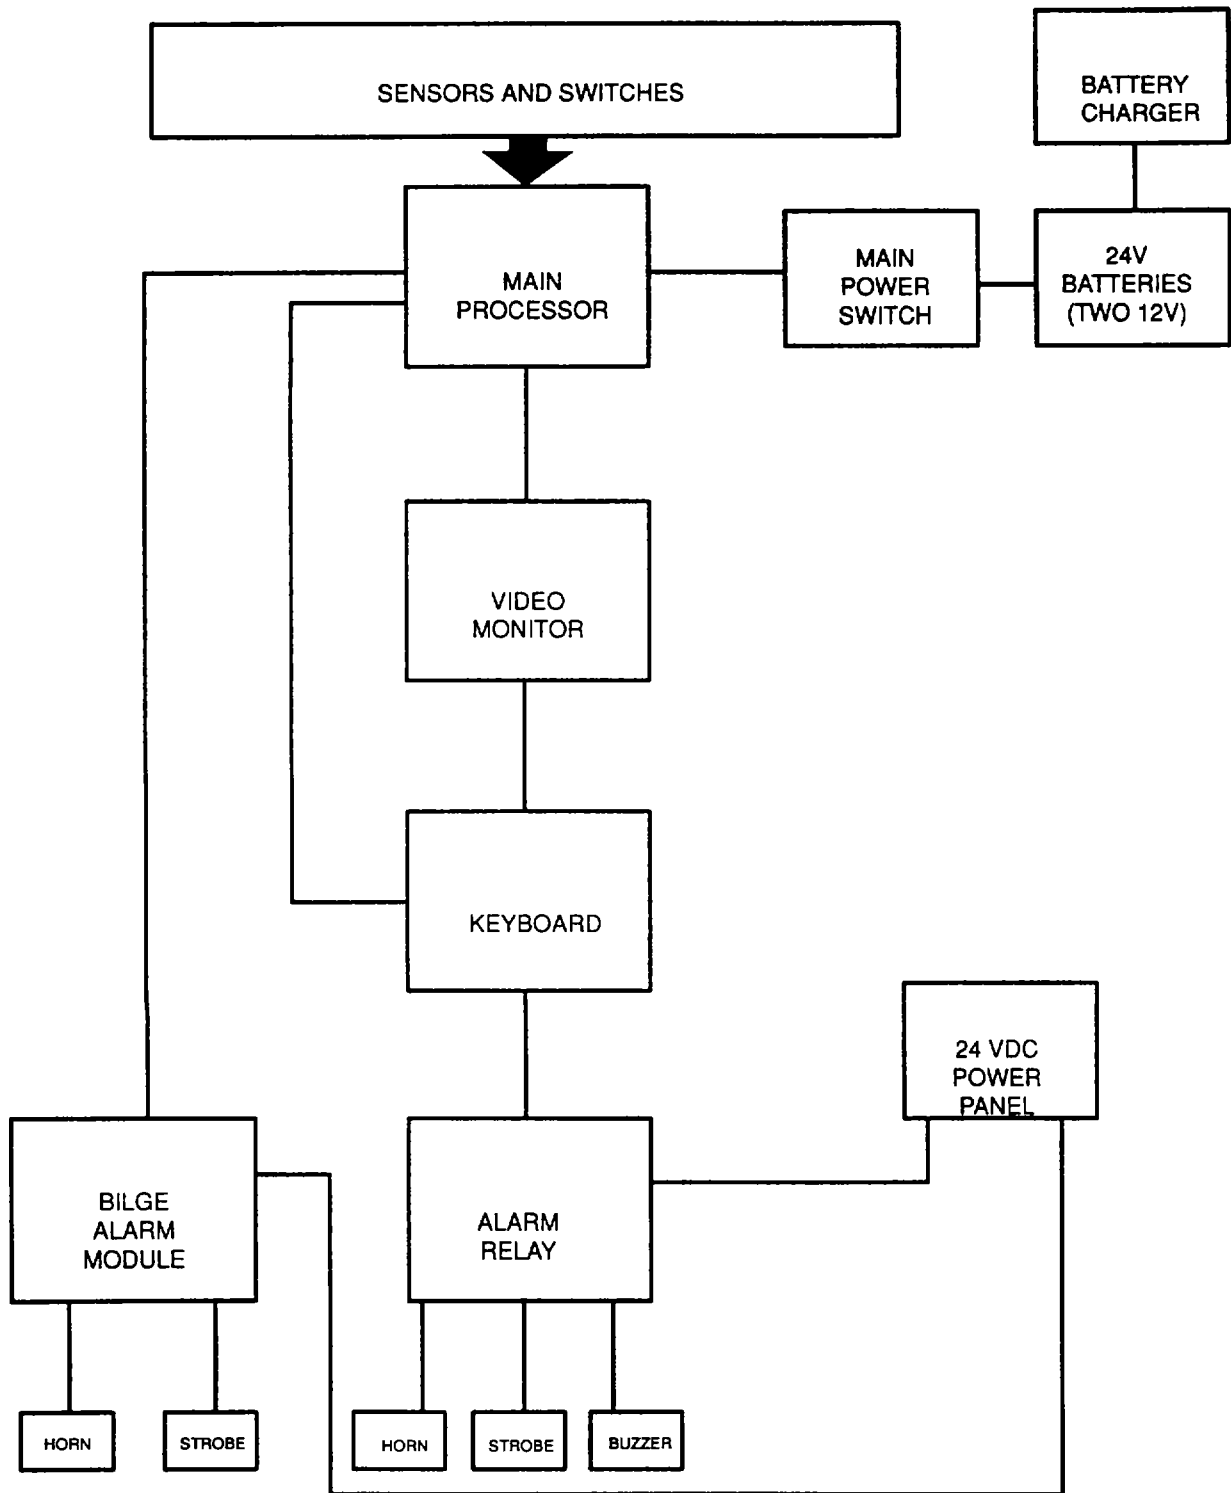
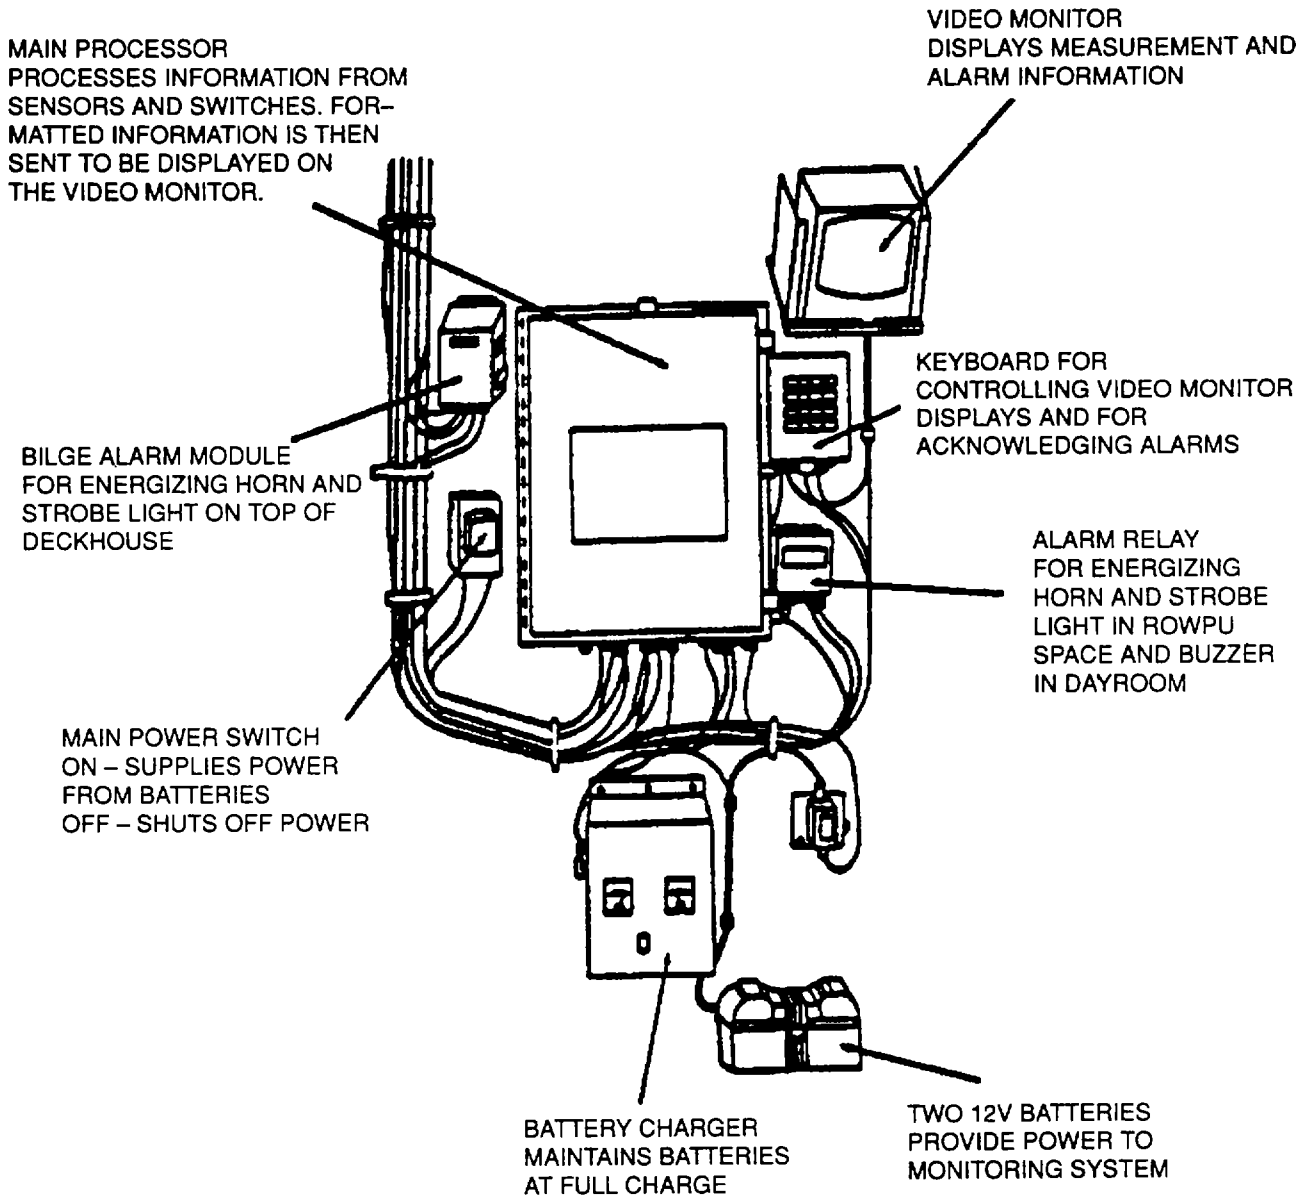

Figure 1-2. Equipment Monitoring System Block Diagram
Figure 1-3. Equipment Monitoring System Arrangement
1-7 Description. EMS main components are the alarm/casualty monitoring equipment, two 12-volt dry cell batteries, a battery charger, two strobe lights, two horns and a buzzer. Additional Information about EMS major components is in Table 1-1 The alarm/casualty monitoring equipment consists of various sensors and switches, a main processor, keyboard, video monitor, alarm relay module, main power switch and a bilge alarm module. A block diagram of EMS components is shown in Figure 1-2. Figure 1-3 shows the arrangement of these components on the barge The installation is also shown on drawings listed in Appendix A.
- b. Push main power switch ON (Figure 1-3).